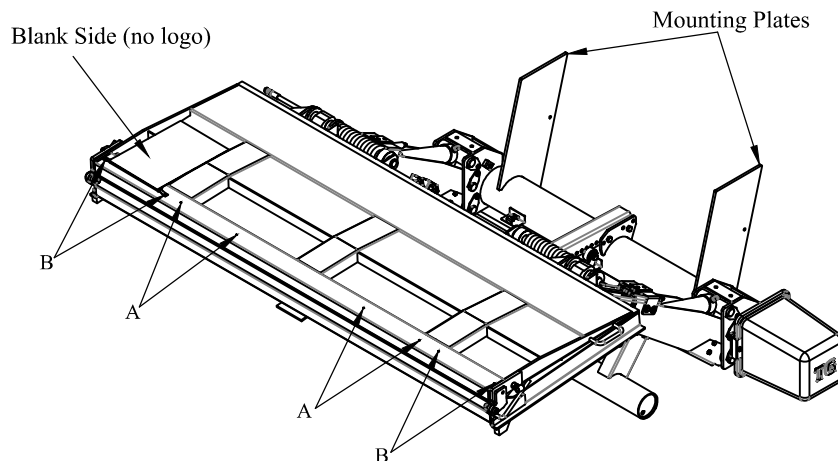

Figure 32: Platform Reflective Flags.
- If your liftgate has the Tommy Gate license plate or other kit installed outside of the mounting brackets, use the four (4) holes indicated as "A" on Figure 32.
- If your liftgate has license plate installed inside of the mounting plates, use the four (4) holes indicated as "B" on Figure 32.
4. **Verify** the Tommy Gate logo facing the platform and the blank side facing up (Figure 32). Reflective side shall face the taper end of the platform when liftgate is deployed.